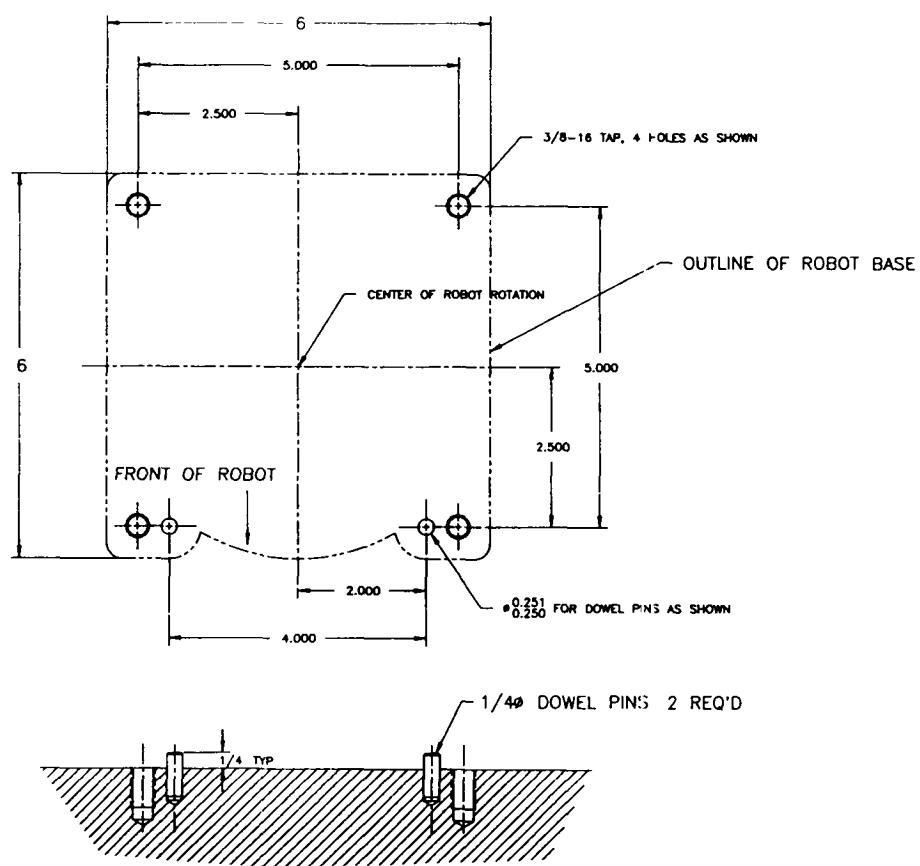

FIGURE 3-1 Robot Base Dimensions
- 1) Prepare a mounting platform. Drill holes in mounting platform using the detail shown in figure 3-1.
- 3) Mount the robot base on the mounting platform using the 3/8" diameter bolts (4) supplied with the arm.
- 4) For future precise relocation use 1/4" diameter dowel pins as shown in figure 3-1.